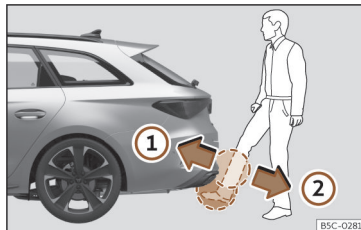

Fig. 84 Rear lid with sensor-controlled opening (Easy Open).
- With a brisk movement, bring your foot and lower leg as close as you can to the bumper. The lower part of the leg needs to be close to the upper sensor area and your foot to the lower sensor area >>> **Fig. 84 ①**.
- Quickly remove your foot and lower leg from the sensor areas >>> **Fig. 84 ②**. The rear lid will open automatically.